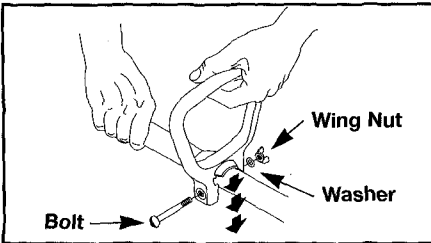

Fig. 1
1. Push the D-handle down over the boom (Fig. 1).